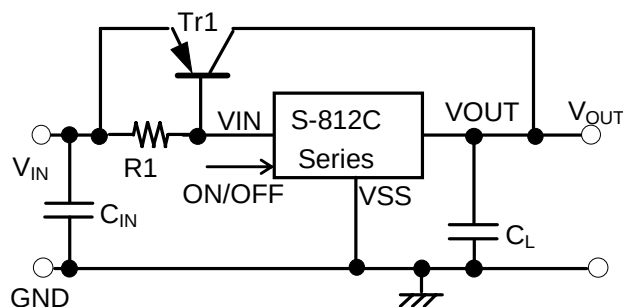

Figure 11 Output Current Boost Circuit
As shown in Figure 11, the output current can be boosted by externally attaching a PNP transistor. The S-812C controls the base current of the PNP transistor so that the output voltage V_{OUT} becomes the voltage specified in the S-812C if the sufficient base-emitter voltage V_{BE} to turn on the PNP transistor is obtained between input voltage V_{IN} and S-812C power source pin VIN.
- As the transient response characteristics of the circuit shown in figure 11 is not enough in some applications, evaluation for output variation due to power-on, power line variation and load variation in actual condition is needed before massproduction.